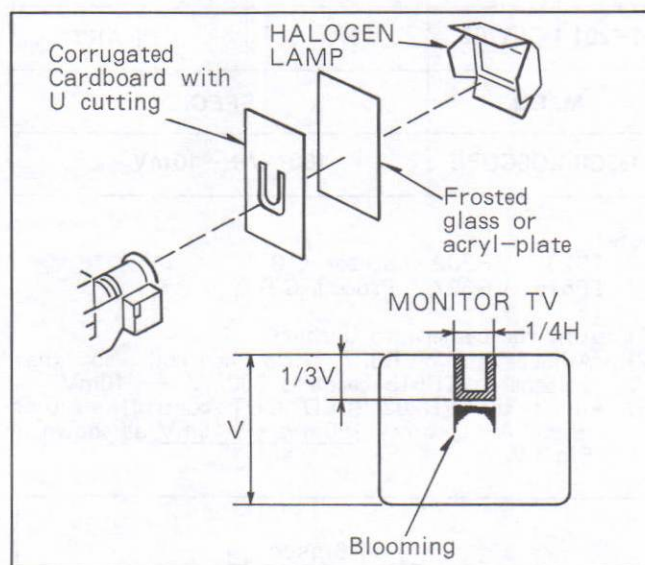

Fig. C8-1
- (1) Zoom all the way in (Fully tele position) and aim the camera at the Halogen Lamp as shown in Fig. C8-1: